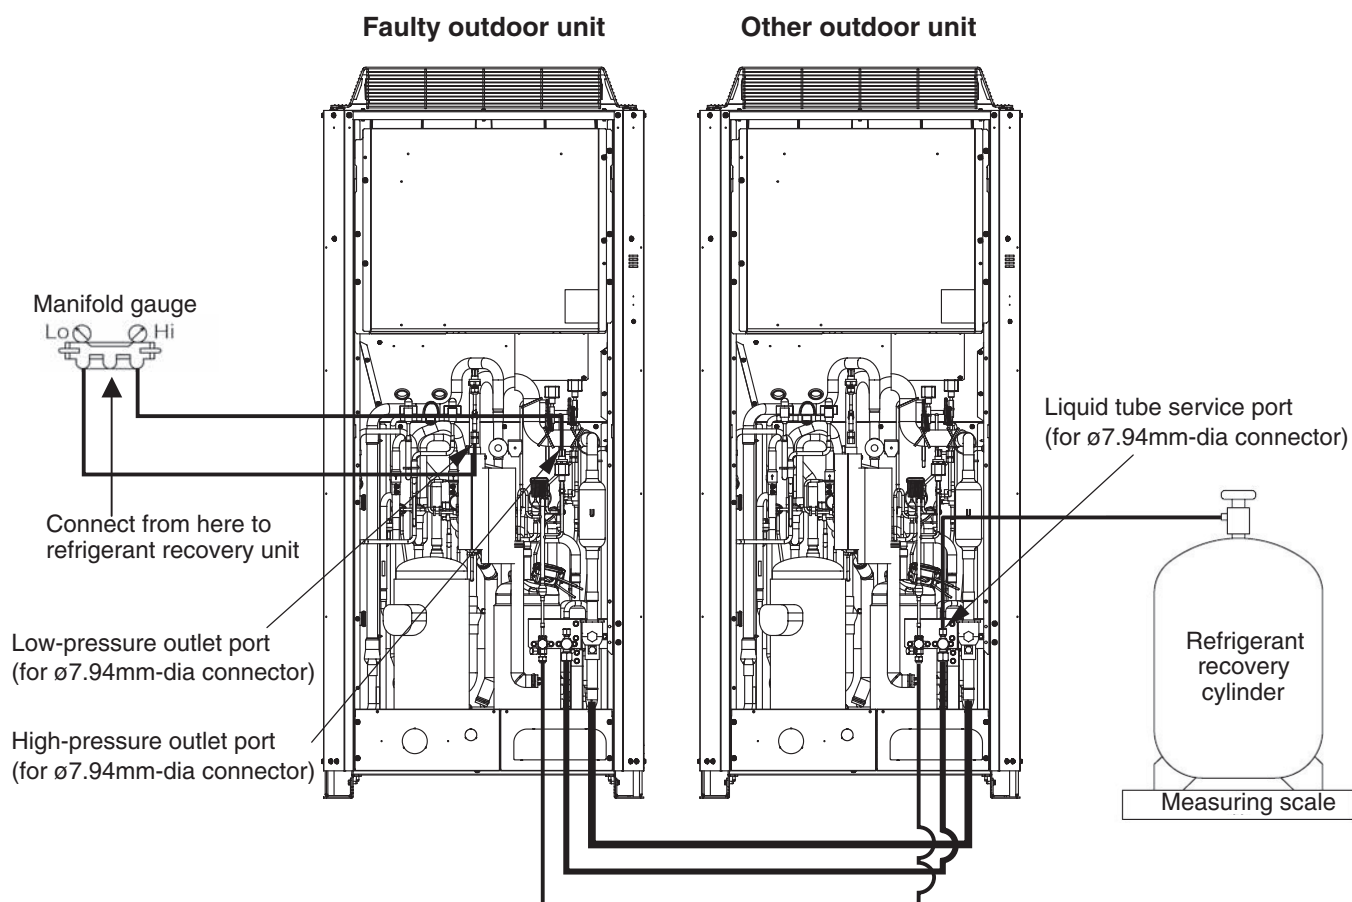

Fig. 14
- (1) Refer to "3. Backup Operation" and perform backup operation.
- (2) Connect the manifold gauge valves at the Lo side to the low-pressure outlet port of the outdoor unit to be repaired. Also connect the refrigerant recovery cylinder to any one of the normal outdoor units at the liquid line service port (Schrader-type push-to-release valve). Perform the connection work quickly so that no air is allowed to enter. (Fig. 14)
- (3) Determine the outdoor unit where the unit No. setting (S007)(3P DIP switch)(BLU) on the outdoor unit control PCB is set to No.1.
- (4) Short-circuit the test-run pin (CN048) to start operation.
- (5) Leave the unit running for a while, and then touch the gas tubing with fingers to determine whether the unit is running in cooling or heating mode. If it is in heating, follow the step (6) and later procedures.